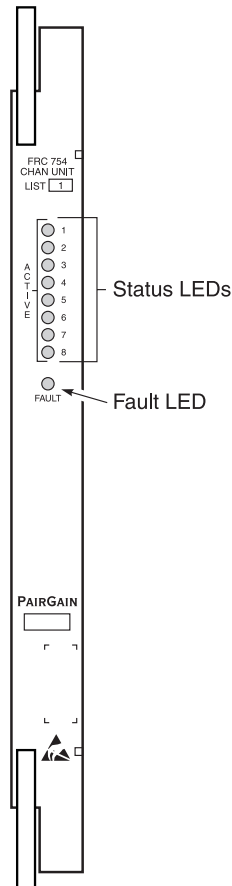

Figure 1. FRC-754 Front Panel
2.1 **Figure 1 shows the FRC-754 front panel.** Table 1 lists the different states and indications for the FRC-754 Channel Unit front panel LEDs.